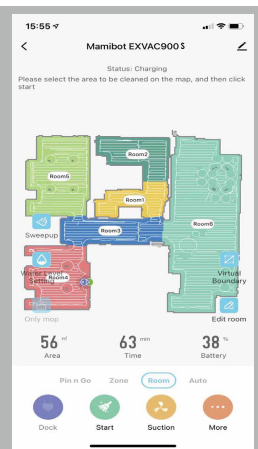

Fig.20
- Users can use P n Go cleaning, Zone cleaning, Room cleaning and Auto cleaning (Fig.20).